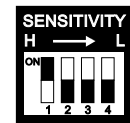

Figure 3
3. Set sensitivity ON (90%) in dip switch 1 (Figure 3). LED indicator will turn off and no signal output. Then set sensitivity all in OFF position. LED indicator will turn on again to complete the calibration procedure.